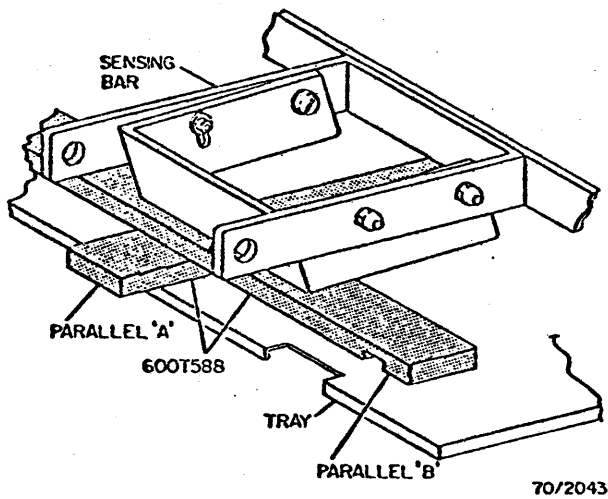

Fig. 3-80. Parallel Bars in Stack Height Position
7. Place the parallel bars under the sensing bar (Fig. 3-80) and raise the tray until it stops. Turn the machine off.